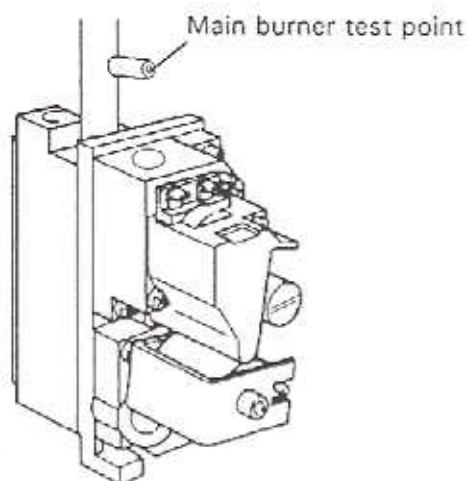
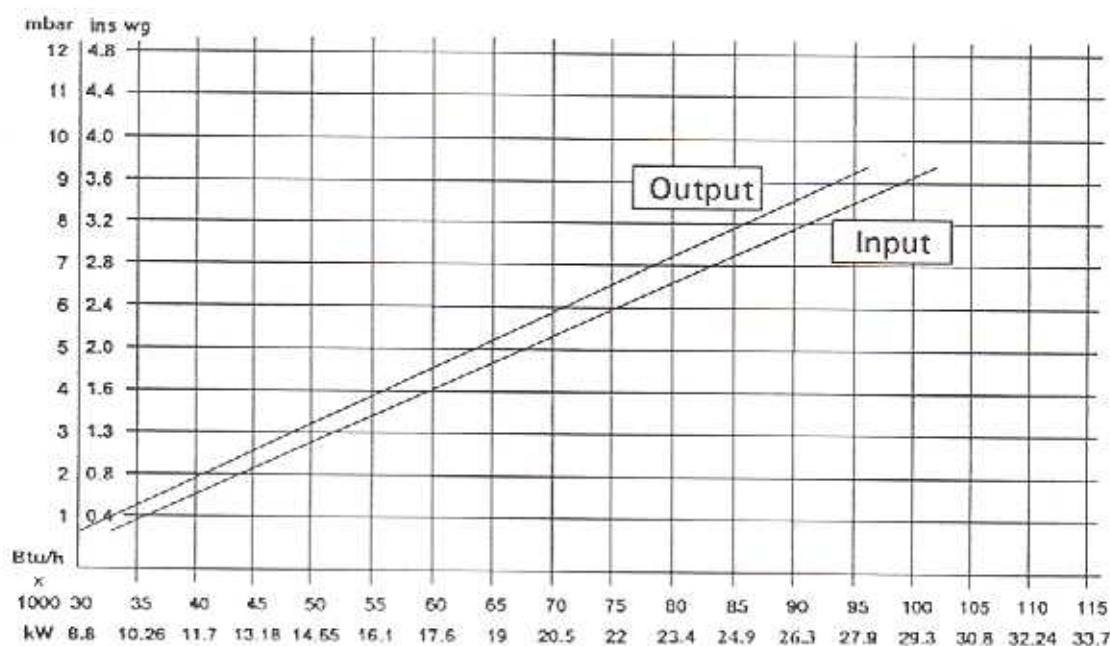

Fig.21
Fig.22
- 6.6.4 Locate the main burner test point (Fig.21) and slacken the screw half a turn in an anticlockwise direction. Attach a suitable pressure gauge. Turn on electricity supply and turn the mode selector switch to the  position.
Locate the main burner test point (Fig.21) and connect a suitable pressure gauge. Refer to fig.22 to determine the pressure for the heating output you need. Use a screwdriver to turn the ADJ HEAT potentiometer until the required pressure is indicated on the gauge. Once this pressure has been fixed remove the pressure gauge and record the pressure indelibly on the label provided and affixed next to the data badge. This is to ensure that the burner can be reset when any service operation involves alteration of burner settings.